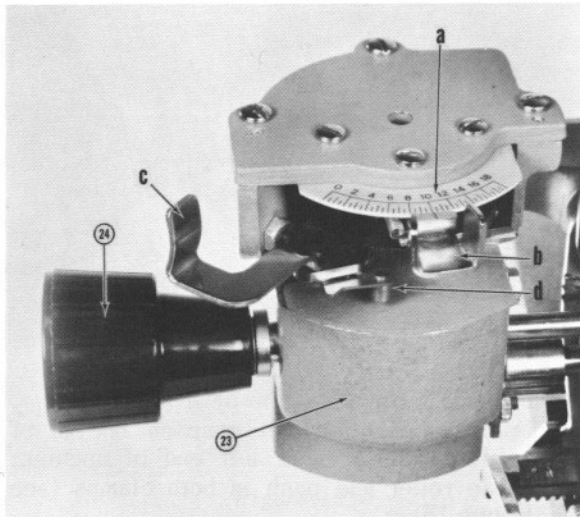

Figure 14
The DS VariType Machine writes at different spacings down the page, as well as across the page. The line spacing (vertical spacing) mechanism is called the **line spacing device (23)** (Figure 14). It can be set instantly to suit the many sizes of type and it permits flexibility in varying spacing between lines. Further explanations of its use are detailed on Page 21, as well as in other sections of the manual.
The line spacing device (23) has four parts (Figure 14); its dial (23a) is calibrated in half-point graduations between 0 and 18 points.